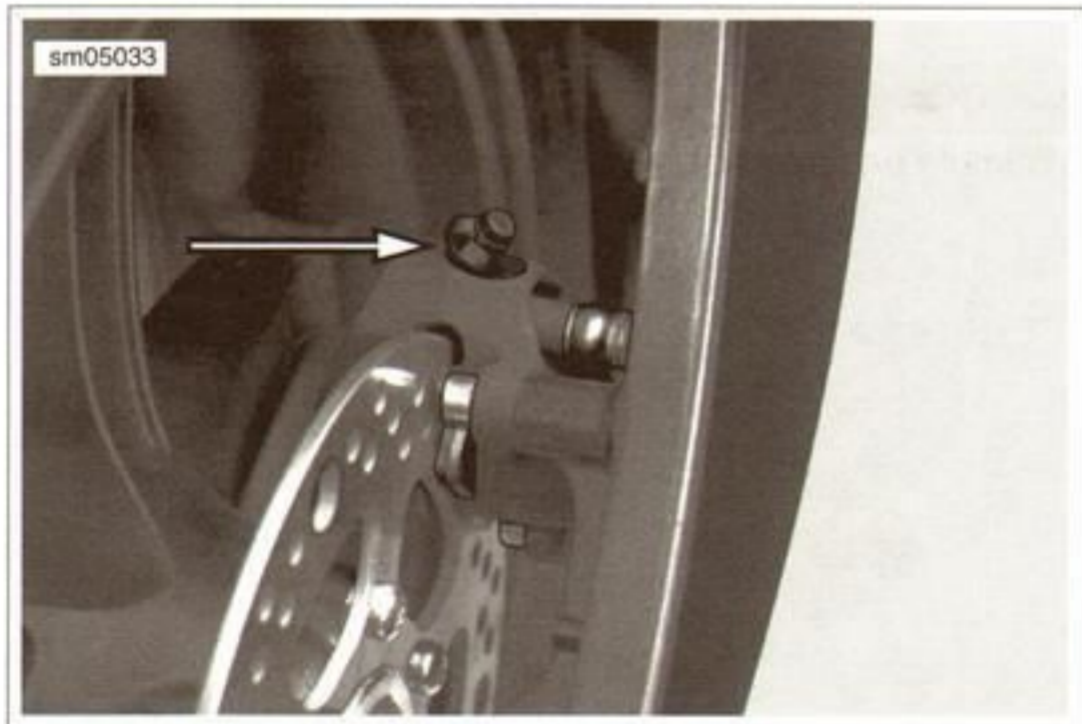

Figure 1-23. Rear Brake Fluid Line Bleeder Valve
1. See Figure 1-23. Remove rubber cap and install end of plastic tubing over rear caliper bleeder valve. Place other end of tubing in a clean container.